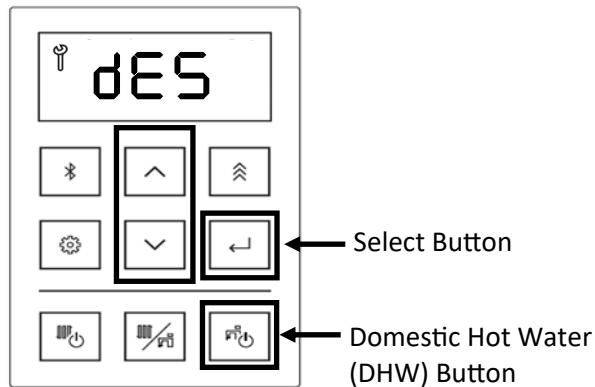

Figure 148
12. Press the up or down arrow button on the controller to select dES (descaling) (Figure 148).
13. Press the Select button to select the dES (Figure 148).
15. Press the Domestic Hot Water (DHW) button to start the count down (Figure 148).